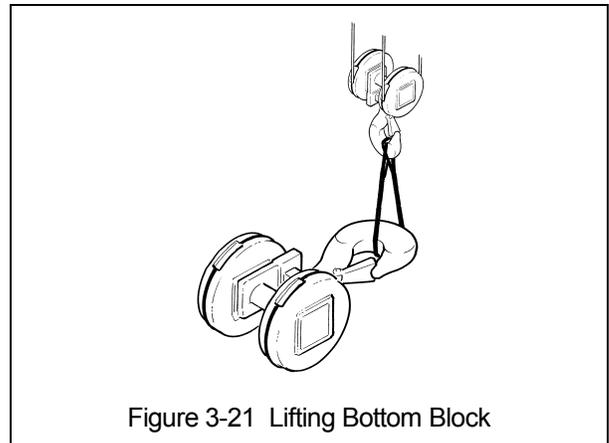

Figure 3-21 Lifting Bottom Block
- 3) Remove the Bottom Block from the pallet/packing and place it on the ground. Use a hoist or other suitable lifting means to pickup the Bottom Block if it is heavier than 50 pounds (weight is written on the container if it exceeds 50 pounds). Always lift/hold the Bottom Block from the Hook regardless if it is lifted using a hoist or handled manually (see Figure 3-21).